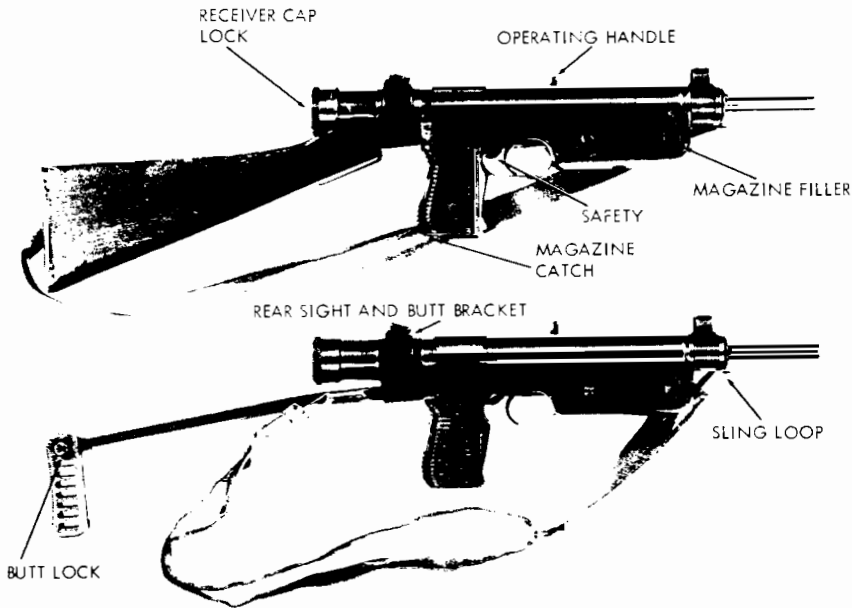
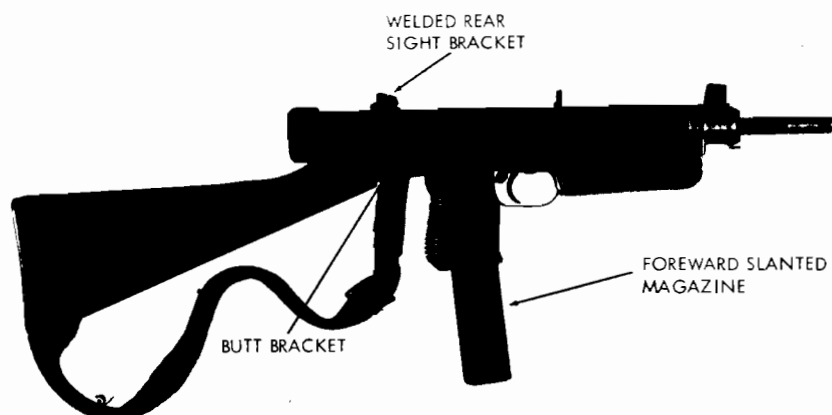

Figure 22. Czechoslovak 9-mm submachineguns Vz 23 (top) and Vz 25.
Figure 23. Czechoslovak 7.62-mm submachinegun Vz 24.
a. The 9-mm Vz 23 and 25 submachineguns (fig. 22) and the 7.62-mm Vz 24 (fig. 23) and 26 submachineguns are all mechanically similar variations of the same weapon. The Vz 23 and 24 both have fixed buttstocks, but differ in the cartridges they fire; the Vz 25 and 26 have folding metal butts, and also differ in the cartridges they fire. The main design
right side of the forestock (fig. 22). The Vz 23 and 25 submachineguns fire 9 x 19-mm Parabellum-type cartridges; the Vz 24 and 26 fire 7.62 x 25-mm pistol cartridges (sec. VI).
c. With an initial slight upward motion, pull the operating handle (fig. 22) fully to the rear. Caution: The submachine-gun is now ready to fire! If desired, place the gun on safe by sliding the safety latch, located behind the trigger, to the right.
d. For accuracy, the folding stocks of the Vz 25 and 26 should be used to steady the guns when firing. Press in on the butt lock (fig. 22) and turn the butt to disengage it from the sling loop (fig. 22); then swing the stock toward the rear until it locks into position.